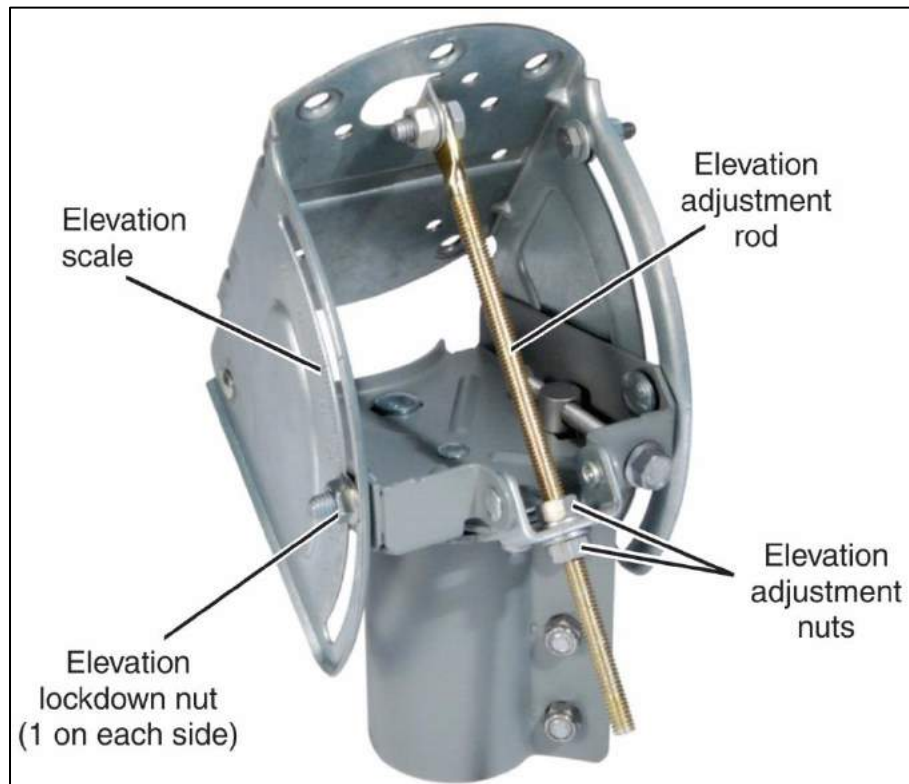

Figure 31: Elevation adjustment components
1. Loosen the elevation lockdown nuts on each side of the Az/El mount. See Figure 31.